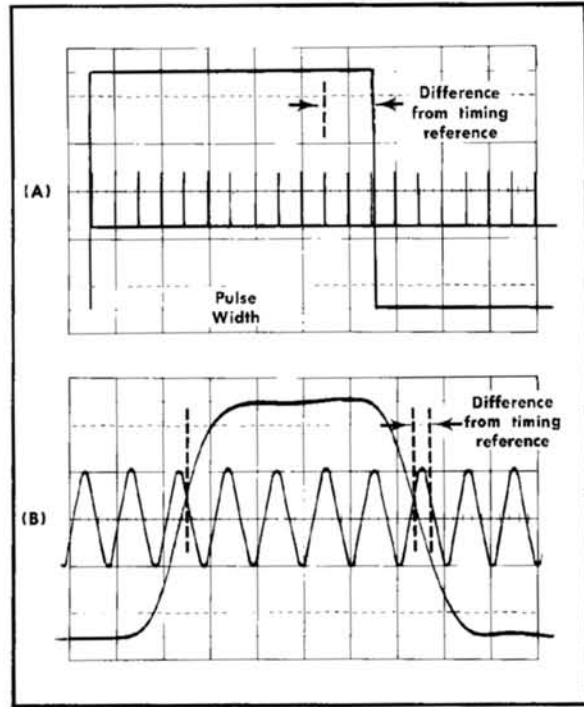

Fig. 5-18. Typical test oscilloscope displays for checking pulse width: (A) 500- μ s pulse width; (B) 50-ns pulse width.
- e. Center the two displayed waveforms vertically and position the Type 115 output pulse rise to the 1 cm vertical line on the CRT screen (see Fig. 5-18).